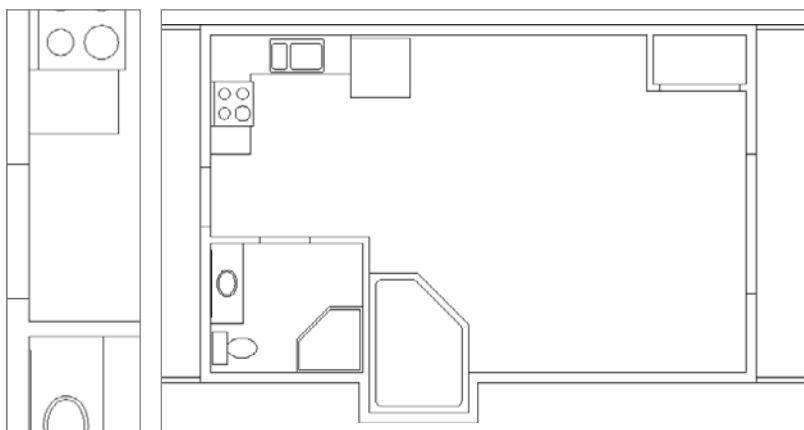

FIGURE 6.37 The header lines drawn for the back door opening (left) and for the rest of the doorway openings (right)
12. Move to the right endpoint of the upper jamb line for the back door and, with the same technique used in steps 6 through 10, draw the lower header line across the opening. You can see the results in the left image of Figure 6.37.
- The floor plan will look like the right image of Figure 6.37.